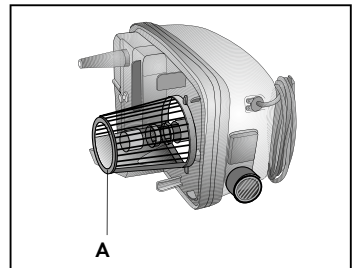

Fig. 21
- Empty the recovery tank (2).
- Activate the vacuum function using the vacuum button (19) and draw water through the accessories previously used for cleaning.
- Empty the recovery tank (2) and repeat the operation as necessary.
Every time the bottom part of the appliance is cleaned, clean any solid residues off the outside of filter (A) **(Fig. 21)**.